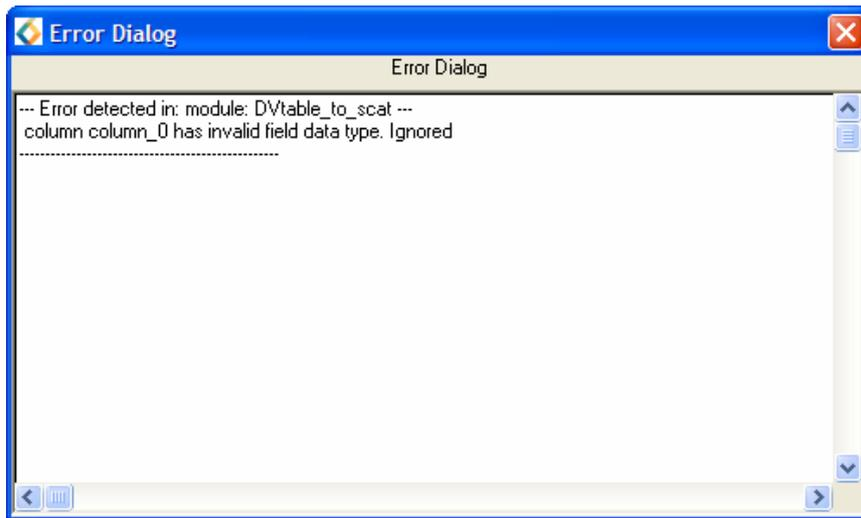
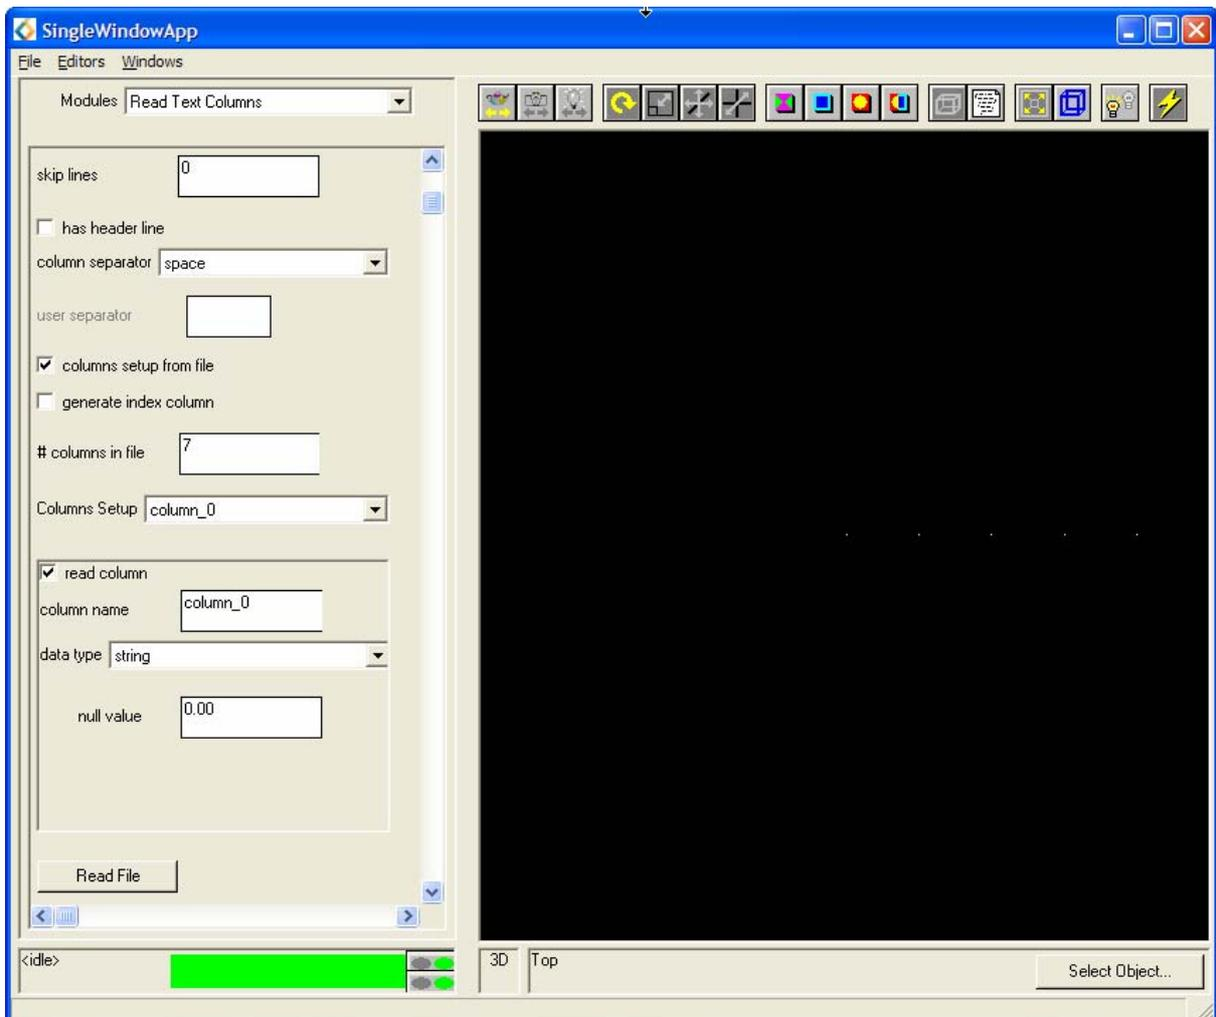

Figure C.24: Error Dialog Message
Figure C.25: Read Text Columns Editor Panel
- Ignore the **Error Dialog** message shown in Figure C.24 – the error is due to the wizard automatically inputting incorrect values into the Read Text Columns module6 (Figure C.25)